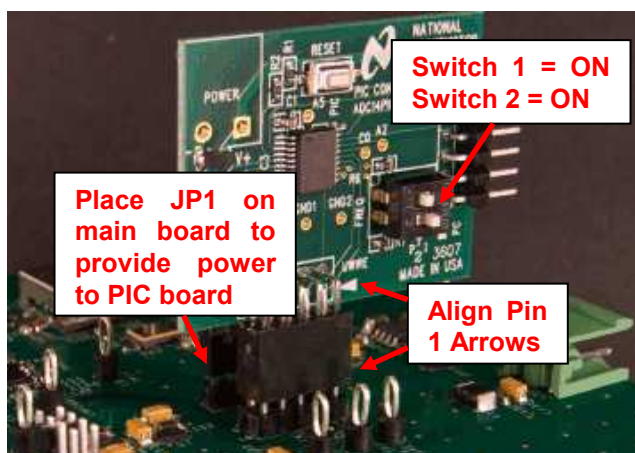

Figure 5: PIC microcontroller Board Connection and Configuration
- Plug the PIC microcontroller board onto the dual-row header labeled "H3" as shown in Figure 5. Align the arrows on the two boards to ensure proper orientation. JP1 should have a jumper installed on the main board to provide power to the PIC microcontroller board. Lastly, flip the switches on the PIC microcontroller board to the following positions: Switch 1 = ON, Switch 2 = ON.